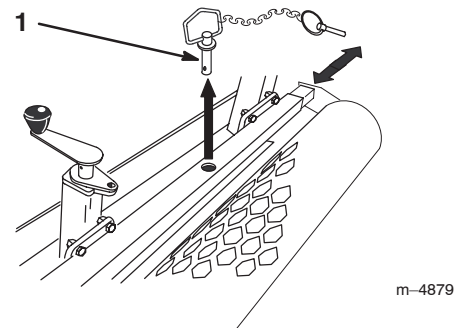

Figure 6
1. Remove the pin located in the center of the roller support bar (Fig. 6).
2. Slide the roller to the desired position (Fig. 6).